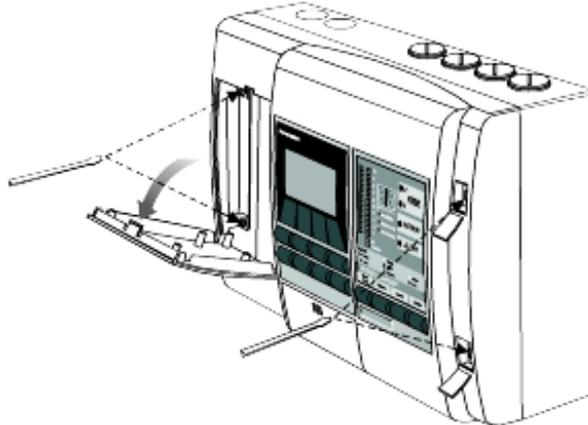

Figure 2 - Removing front cover
11. Close up the detector as per figure 2, "Removing front cover," on page 6.
1. Insert a screwdriver at the top between the Module and the Front Cover (See figure 2, "Removing front cover," on page 6).